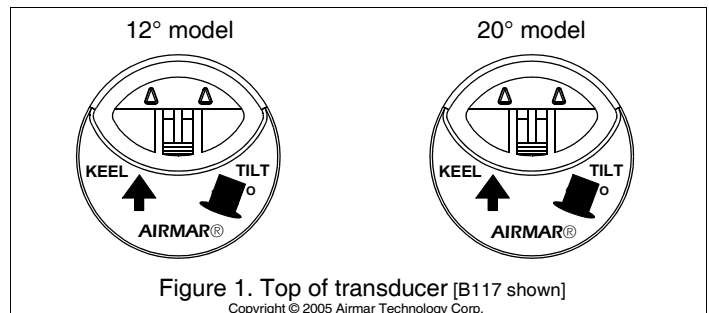
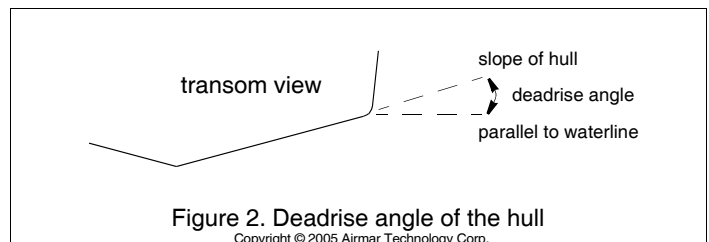

Figure 1. Top of transducer [B117 shown]
Figure 2. Deadrise angle of the hull
Be sure the tilt angle of your transducer model matches the deadrise angle of your hull at the mounting location. The tilt angle is printed on the top of the transducer (see Figure 1). To measure the deadrise angle of your hull at the selected mounting location, use an angle finder or a digital level (see Figure 2).
**12° and 20° models**—From inside the hull, point the arrow on the top of the transducer (and the cable exit) toward the KEEL or centerline of the boat (see Figure 1). This will align the angle of the element inside the transducer with the deadrise angle of your hull.